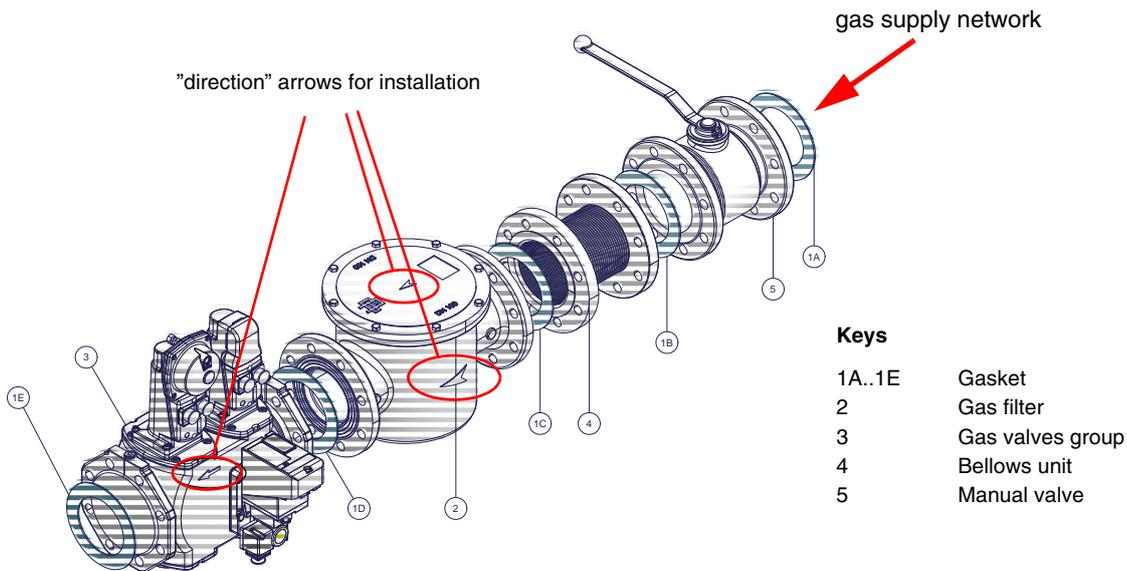

Fig. 8 - Example for gas train
- 1-b) in case of flanged joints: place a gasket (no. 1A..1E - Fig. 8) between the items
ATTENTION: once the gas train is mounted according to the diagram on Fig. 8, the gas proving test must be performed, according to the procedure set by the laws in force.